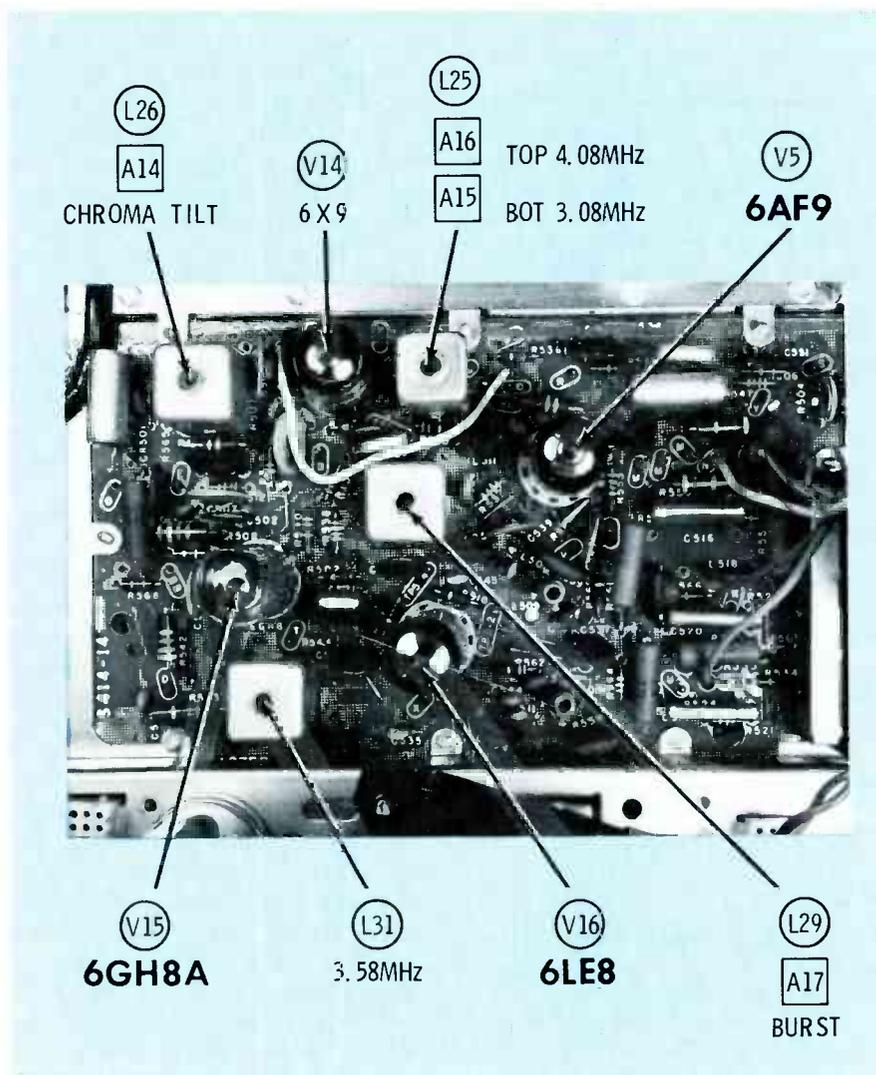

Fig. 13B This picture shows the location of the tubes and alignment adjustments on the chroma board.
3. A simplified schematic of the chroma channel is shown in Fig. 13A, and a picture of the chroma board is shown in Fig. 13B. Adjust the top core of L25 (A16) for maximum height of the curve at 4.08 MHz, and the bottom core (A15) for maximum height at 3.08 MHz. Adjust the core of L26 (A14) to make the curve as flat and level as possible. If the tilt is more than about 25%, it may be necessary to touch up the IF alignment before trying the chroma adjustments a second time. Then adjust L9 (A11) for minimum response at 4.5 MHz. Final adjustment of this trap should be made on a station, as detailed later.